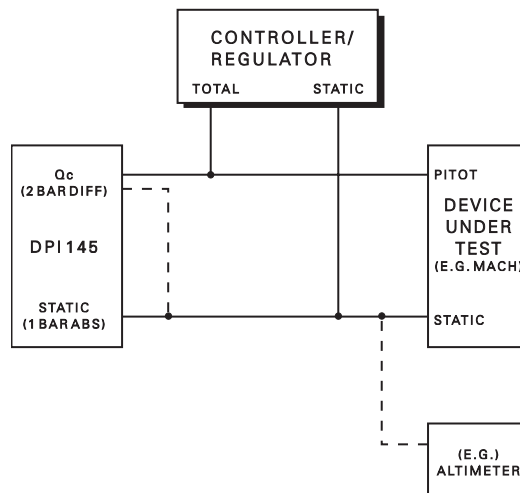

Figure 4.3 - Typical Test Set-up
The DPI 145 instrument is a pressure indicator and so an external controller is required to generate the appropriate Q_c and Static pressure for the type of test required. Fig. 4.3 shows a typical set-up.
- Connect device under test and the DPI 145 instrument to the pressure source controller (see Figure 4.3.)
- Connect the device under test and the DPI 145 instrument to the pressure source controller (see Figure 4.3.).